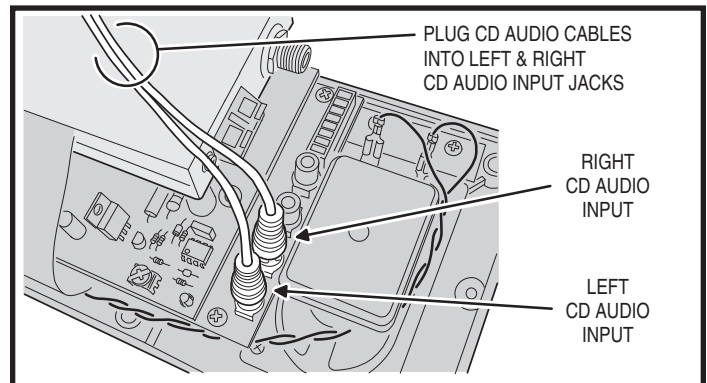

Figure 22. CD/MP3 Input Jacks on Master Station
3. Insert the CD audio cable's BLACK RCA plug into the CD L jack on the DMC3-4 Master Station, then insert the cable's RED RCA plug into the CD R jack on the DMC3-4 Master Station (see Figure 22).